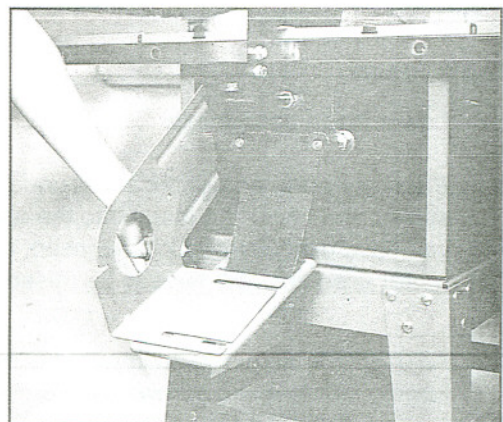

Fig. 22
2. Place belt guard bracket on top of motor plate. Hole for motor pulley should be on your left as you face the rear of the saw. (Fig. 22)